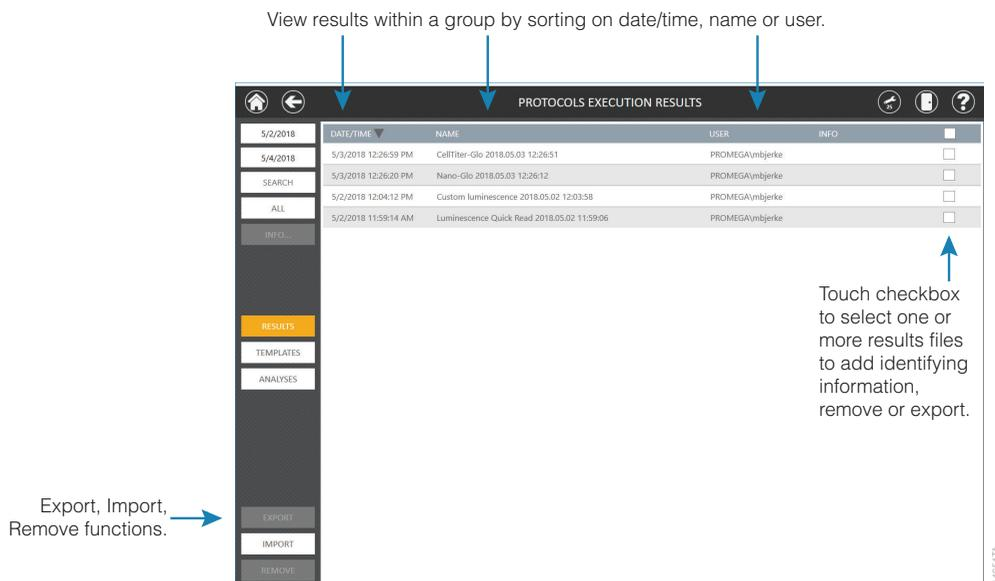

Figure 58. The 'Results, Templates and Analyses' screen.
2. The middle section of the Left Navigation column allows users to toggle the display on this screen between **Results**, **Templates** and **Analyses** (Figure 58).